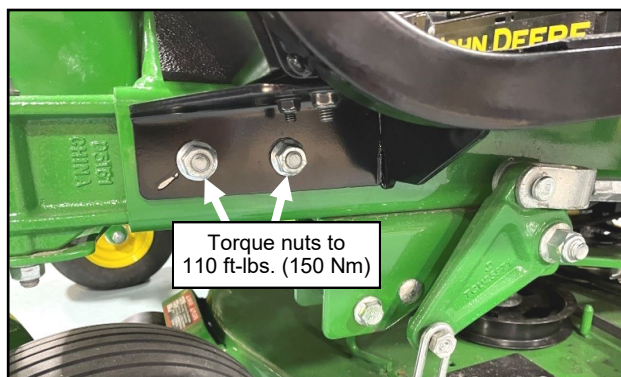

Fig. 2.9 (Tighten Vehicle Frame Bolts, Left)
- 2.9 Fully tighten front mount hardware going into the vehicle's side frame. Torque to 110 ft-lbs. (150 Nm). See Figure 2.9.